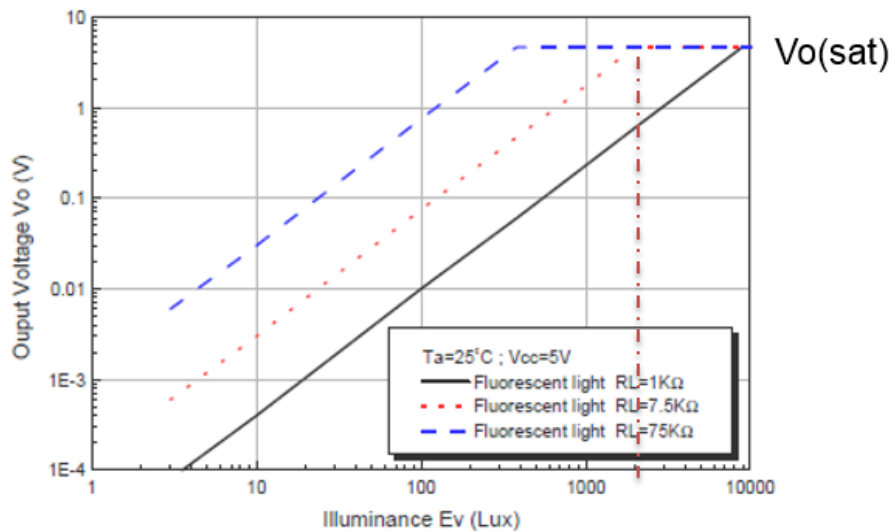

Figure 3 Vout V.S. Lux graph
- Draw similar to figure 3 V_{out} V.S. Lux graph, so easier to find output voltage to correspond illuminance value.
Let $R_L = 7.5k\Omega$ line from figure 3 as example, under 1100 lux is best to operate maximum ambient light. Please note that 0 Lux will have small output dark current to make minimum output voltage not equal to 0 volt, this dark current will increase as temperature increase, so illuminance is bit different when under 10 Lux (note5) and over $60^\circ C$ verse when is $25^\circ C$. ALS saturation output voltage smaller than supply voltage V_{cc} .